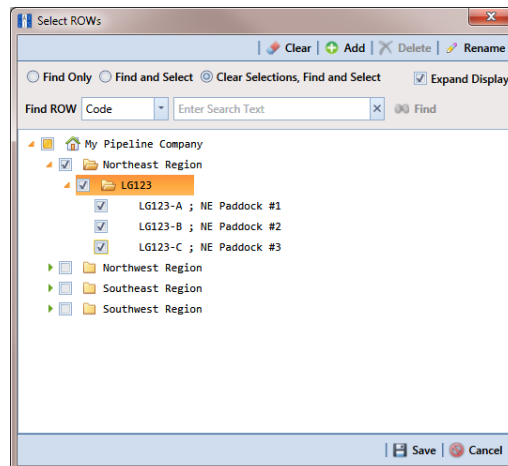

Figure 4-12. Select ROWs
- 1 Click the **Select ROWs** button  to open the *Select ROWs* window (Figure 4-12, page 141).
- 1 Click the **Select ROWs** button  to open the *Select ROWs* window (Figure 4-12, page 141). Select one or more pipeline segments you want to work with by clicking the check box for each pipeline segment. Then click  **Save** to close the window.